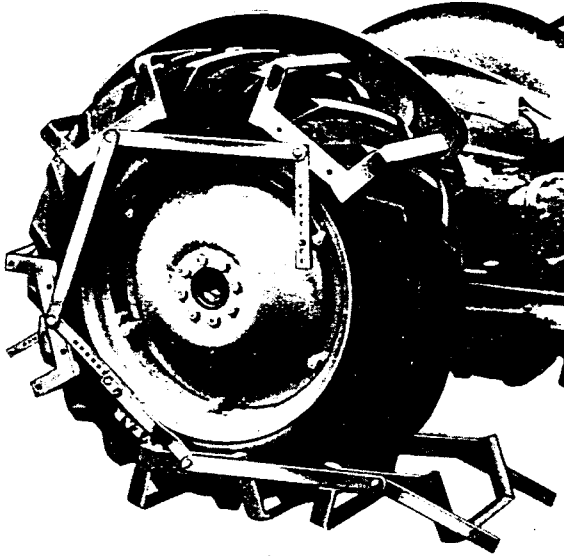

FIG. 13
2. From the rear, guide the girdles over the tyre until all the stirrups are in contact, Fig. 13.